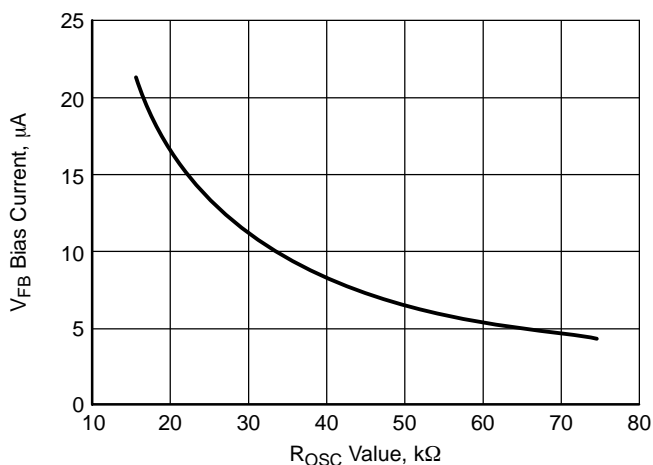

Figure 5. VFB Bias Current vs. ROSC Value
3. The  $V_{\text{FB}}$  Bias Current changes with the value of  $R_{\text{OSC}}$  per Figure 5.